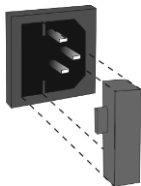
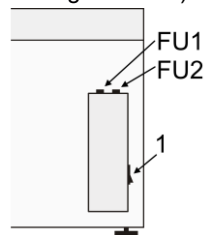

Figure 12.
Figure 14.
8.2.1. Fuse for the control box. Disconnect the unit from the electric circuit. Remove the power cable from its socket on the rear side of the unit. Open the fuse holder by pulling out the holder (fig. 12, compact models) or by screwing off the holder lid marked FU2 (fig. 14, model **UVT-S-AR**). Check the fuse and replace, if necessary, **M** 3.15 A (type **M** - time lag: **Medium**).